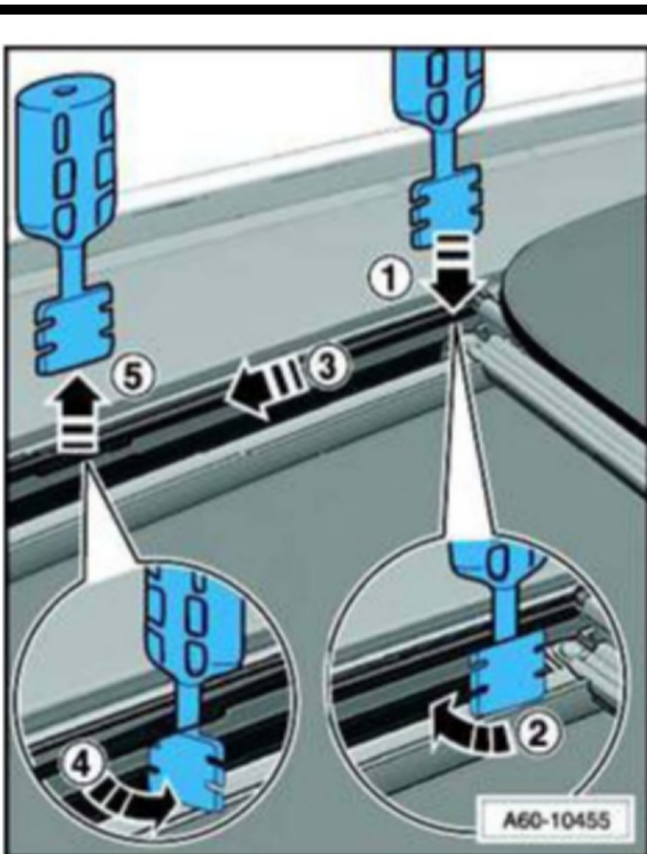

Figure 22. (1) Insert VAS 6621 in rear of guide rail. (2) Turn VAS 6621 90°. (3) Slide VAS 6621 towards front. (4) Turn 90°. (5) Removing VAS 6621.
1. The bulk of the old lubricant, dirt and debris will be removed as follows: Insert the VAS 6621 to the rear of the guide rail (Figure 22, 1), turn it 90°(Figure 22, 2) and slide it toward the front (Figure 22, 3). Turn the tool 90°once again and remove it (Figure 22, 4-5). Clean the old lubricant and debris from the tool. Repeat this procedure starting from the front of the guide rail and slide the tool toward the rear. Perform this procedure to both sides.